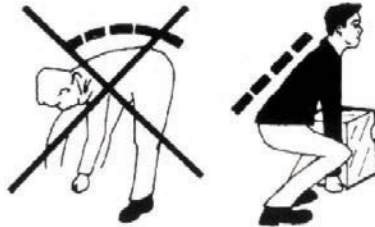

Fig. 4.3
- Lift loads without flexing your back, keeping the torso straight (fig. 4.3)